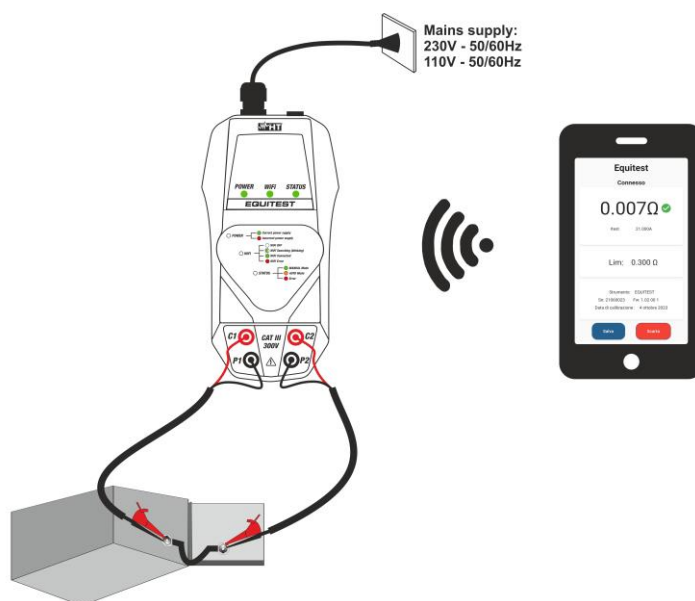

Fig. 4 Use of the instrument with HT Equitest APP
5. Connect the alligator clips of the **C7000** cable set to the ends of the object under test (see Fig. 4)
6. Tap the **"Measurement"** button inside the APP to activate the test in **Manual mode** or simply by moving the test terminals if **Automatic mode** is selected. The instrument provides the test current >10A AC and the measurement result is shown within the APP (see Fig.4) with the "✓" icon in case of a passed test or "!" icon in case of a failed test